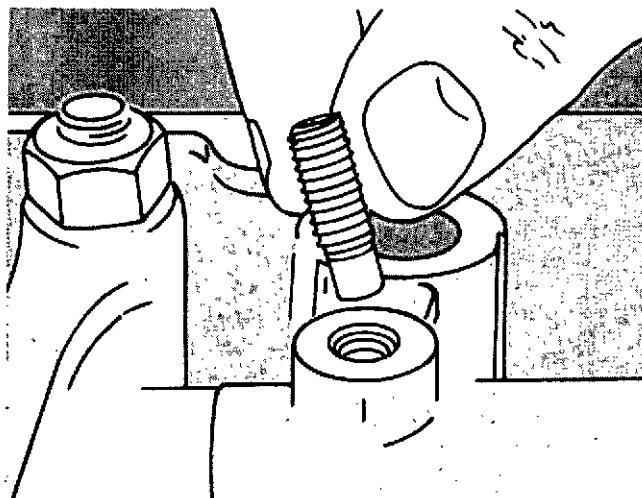

Fig. 20-2. Remove The Setscrew From The Rocker Lever Housing.
6. Remove the rocker lever shaft setscrew from the rocker lever housings, Fig. 20-2.